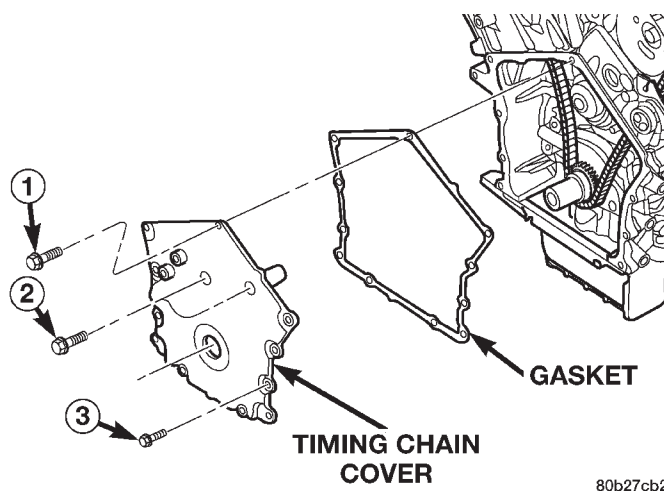

Fig. 51 Timing Chain Cover—Removal and Installation
(4) Remove crankshaft damper. Refer to procedure outlined in this section.
(5) Remove power steering pump from mounting bracket.
(6) Remove accessory drive belt tensioner pulley and bracket.
(7) Remove timing chain cover attaching bolts and remove cover (Fig. 51).
(4) Install timing cover and gasket. Tighten M10 cover bolts to 54 N·m (40 ft. lbs.) and M6 bolts to 12 N·m (105 in. lbs.) (Fig. 51).
(5) If not previously performed, install crankshaft oil seal using Special Tool 6780-2 sleeve and 6780-2 installer.
(6) Install crankshaft damper and tighten center bolt to 170 N·m (125 ft. lbs.)
(7) Attach power steering pump to bracket.
(8) Install A/C belt tensioner assembly to timing cover.
(9) Install accessory drive belt tensioner pulley and bracket.
(10) Install fan module, A/C and accessory drive belts. Refer to Group 07, Cooling System for procedure.
(11) Install upper radiator crossmember.
(12) Connect negative cable at right strut tower.